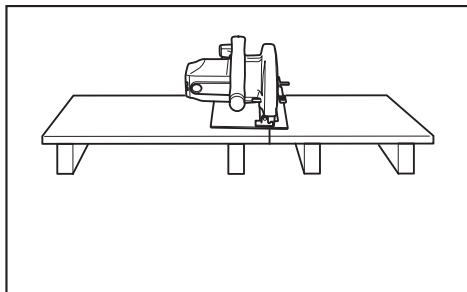

Fig. 1
8. **Support Large Panels (Fig. 1 & 2).**
Large panels must be supported as shown in Fig. 1 to minimize the risk of blade pinching and kickback.
10. **Guard Against Kickback.** (Fig. 1 & 3)
Keep blades sharp. Support large panels as shown in Fig. 1.